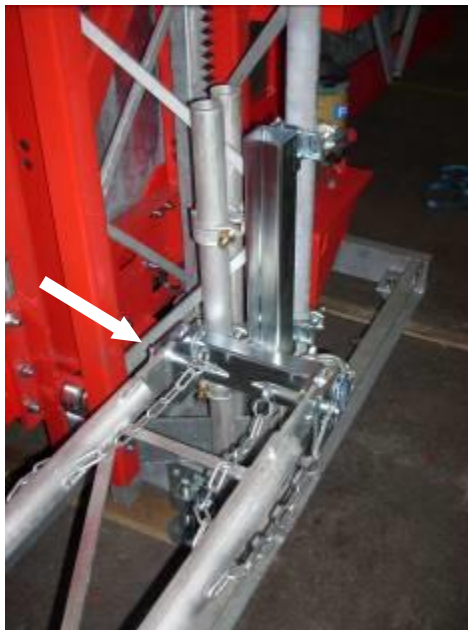

Fig. 26: Mast anchor pipe pinned to connector
1. Align the anchor plate (4) and connector (1) (ensure they are parallel to the platform)
2. At the height of the first floor, attach the connector (1) to the mast.
3. Pin the mast anchor pipe (2) to the connector (1) (rotate 1 and 2 to the outside; this allows you to insert the inside pin) → see Fig. 26
4. Attach the assembly cable (3) approx. 800 mm above the connector (1). Now, use a snap hook to connect it to the mast anchor pipe (2).
5. Pin the mast anchor pipe (2) in the pockets of the anchor plate (4)
6. Use the connector (1) to align the mast anchor pipe (2) horizontally. (if necessary, loosen 1 and 3 and shift vertically)
7. Drill into the anchor plate (4) and use two anchor bolts to attach the plate.
8. Use a rotary joint to connect the rotation prevention device (5) to the mast and connector (1). Both pipes must clamp at least two mast struts (9).